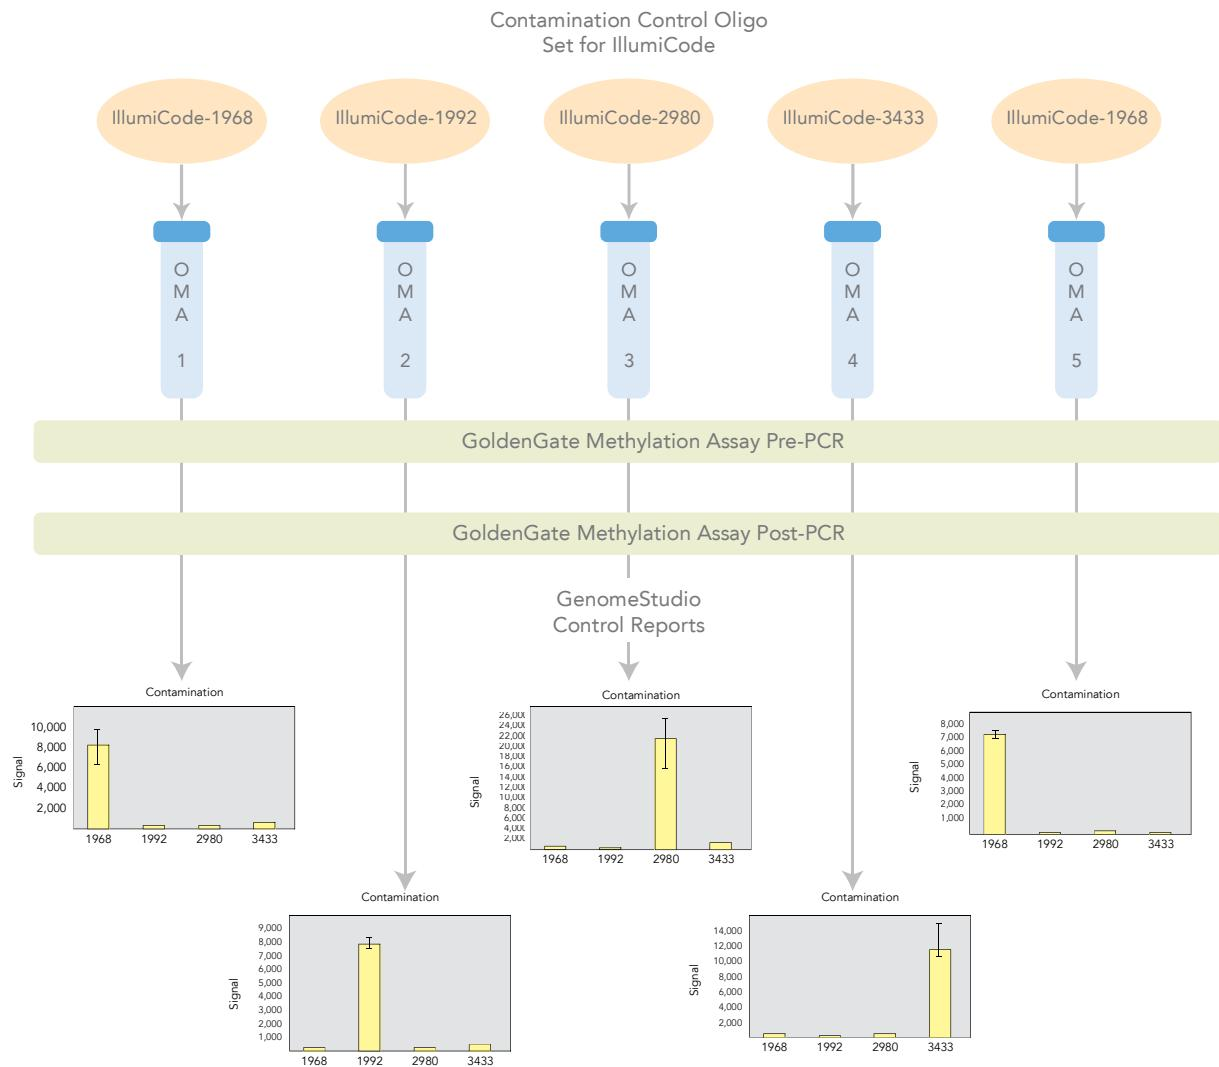

Figure 140 Contamination-Free Environment
- ▶ Figure 140 represents a contamination-free environment.